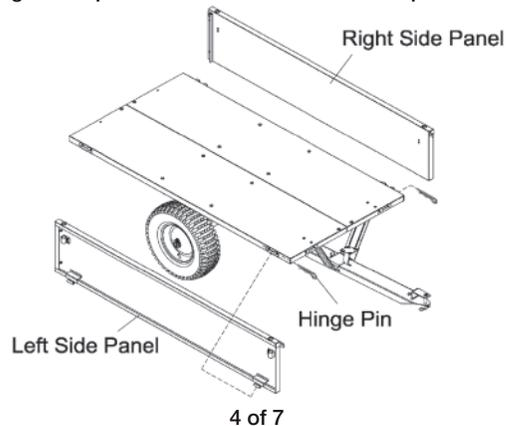

Fig. 6
**STEP 6: Attach Side Panel (See Fig. 6)**